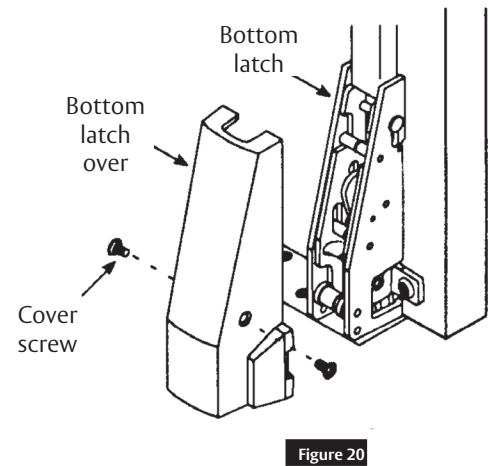

Figure 20
2. Position the bottom latch cover and secure in the bottom latch frame. (Figure 20)